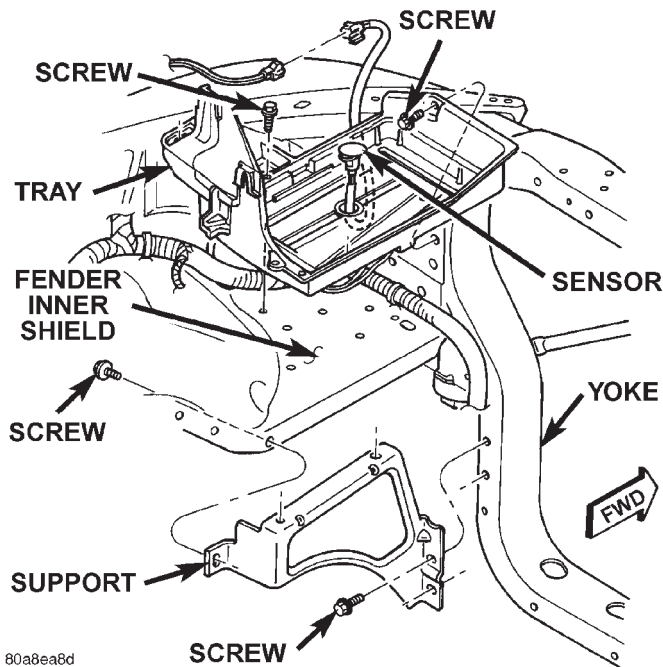

Fig. 18 Battery Tray
(5) Inspect the battery tray (Fig. 18) and hold-downs for corrosion or damage. Remove any corrosion using a wire brush and a sodium bicarbonate (baking soda) and warm water cleaning solution. Paint any exposed bare metal and replace any damaged parts.
(6) Inspect the battery case for cracks or other damage that could result in electrolyte leaks. Also, check the battery terminal posts for looseness. Batteries with damaged cases or loose posts must be replaced.
(7) Inspect the battery built-in test indicator sight glass for an indication of the battery condition. If the electrolyte level is low, the battery must be replaced.